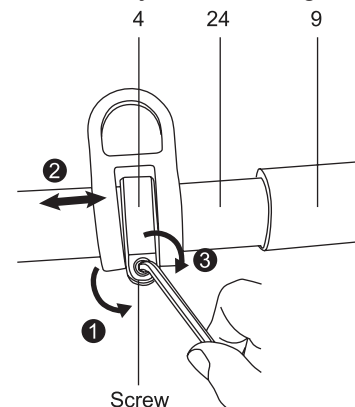

Fig. 19
3. Open the clip (29a) to remove the harness from the loop (3).
4. Open the buckle (29b) to quickly release the harness (29).
5. If required, set the loop retainer (4) on a proper position for comfort and easy control. Loosen the screw and move the loop retainer (4) back and forward along the pole (24). It's better to locate the loop retainer (4) within the range about 30cm from the gripping surface (9). After adjustment, re-tighten the screw. (Fig.19)